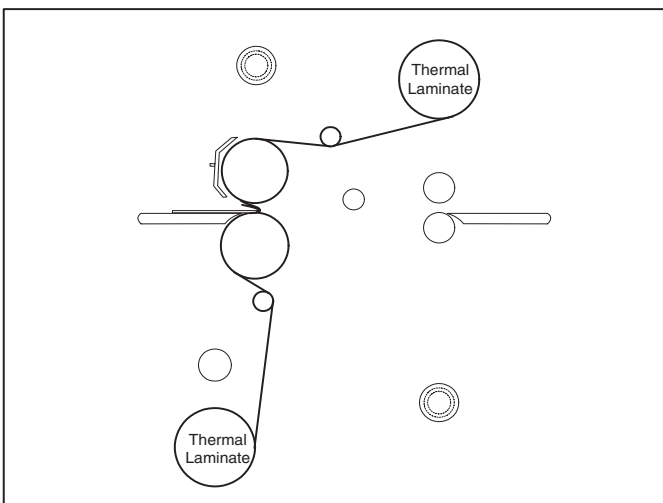

Fig 24
8. Pivot the table back to its feeding position while ensuring the threading card is on top of the feed table (Figure 24).